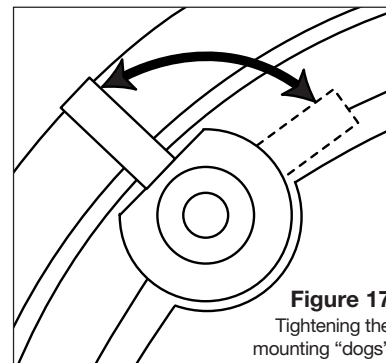

Figure 17
7. On both models, there are four clamps or mounting “dogs” which hold each speaker in place. The dogs are tightened via four front-baffle screws. To install the speaker, first rotate the dogs inward. Insert the speaker into the cutout and tighten the dogs by turning the screws clockwise. DO NOT OVERTIGHTEN THESE SCREWS. Over-tightening the clamps may make the grille difficult to install. (**See Figure 17**).